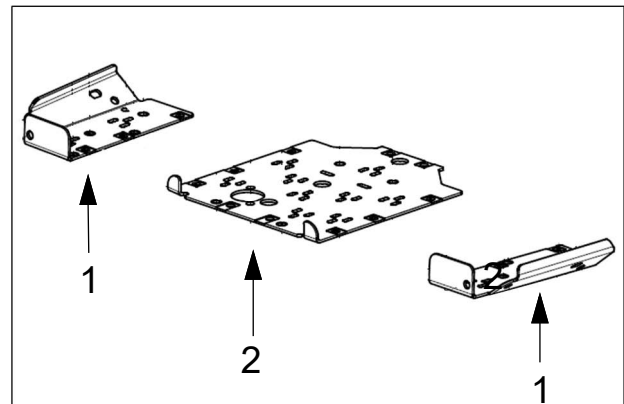

Fig. 3
- If present, you will need to remove RH and LH skid plates (1) as well as the middle skid plate (2) Fig. 3